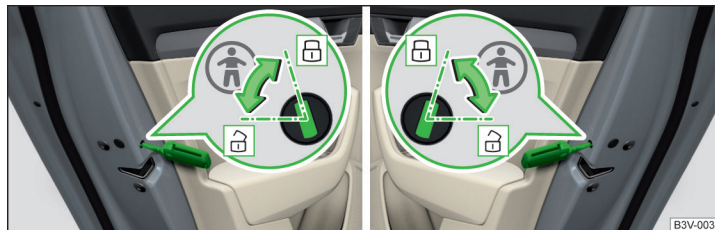

Fig. 53 Rear door: Child safety system switch on / off
- To **switch on**, turn the parental control with the vehicle key in position » Fig. 53.